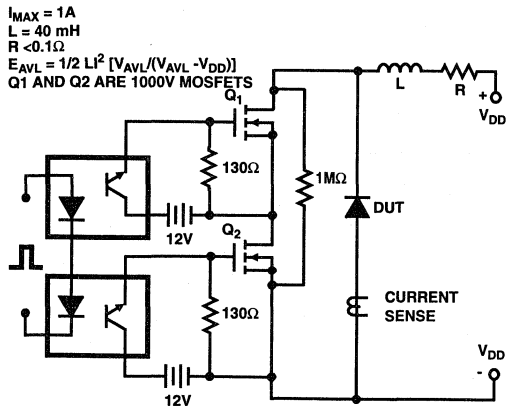

FIGURE 7. AVALANCHE ENERGY TEST CIRCUIT
- $E_{AVL}$  = Controlled avalanche energy (See Figures 7 and 8).